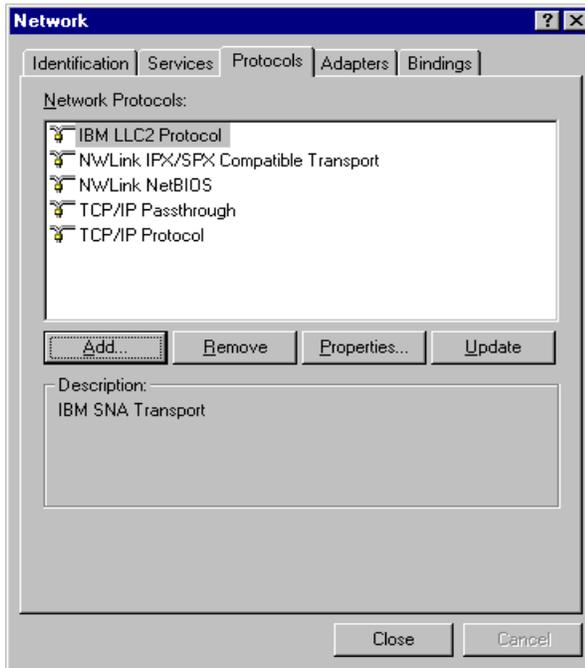
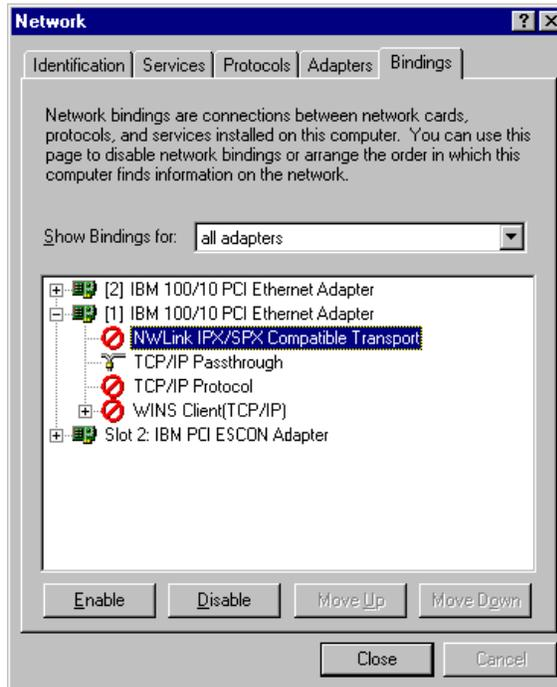

Figure 9-7. Network Protocol list with TCP/IP Passthrough
Figure 9-8. Network Bindings for all Adapters
6. The Network dialog Protocol page will redisplay (Figure 9-7). You should now see TCP/IP Passthrough on the list of installed protocols.
7. TCP/IP Passthrough requires dedicated LAN adapters. You must disable all other services and protocols bound to LAN adapters that are planned for use with TCP/IP Passthrough. Click on the **Bindings** tab in the Network screen (Figure 9-7). Then select **All Adapters** to display the list of installed adapters in the server. Expand the bindings for any adapter that you plan to use for TCP/IP Passthrough. Highlight and **Disable** all services and protocols bound to the adapter except for TCP/IP Passthrough. Figure 9-8 shows a properly configured LAN adapter.